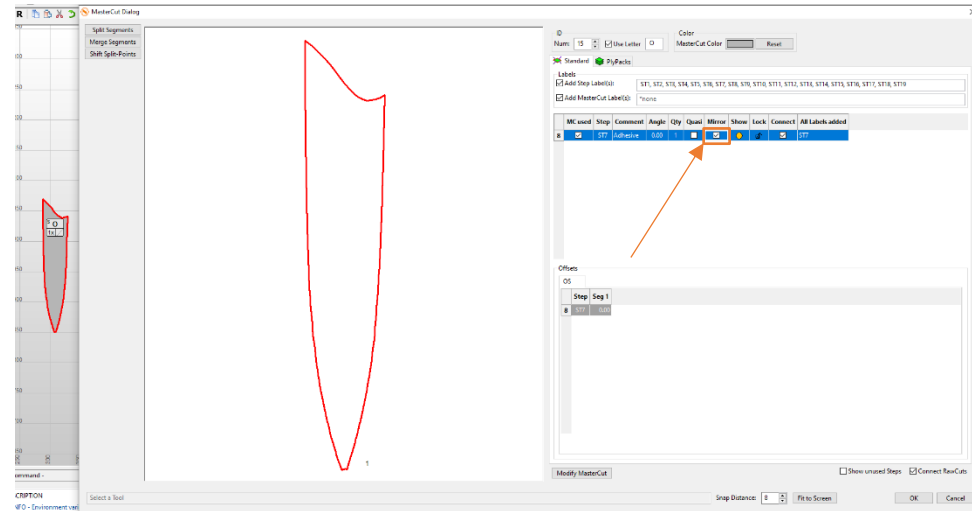

Figure 281
- MasterCut with ID O. Just double-click on this MasterCut and activate the **[Mirror]** box (Figure 281).